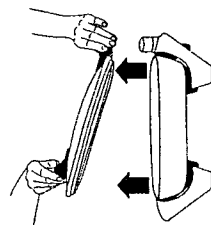

Fig. 3
- To remove the lid, use both hands to gently lift up and remove. (see Fig. 3).